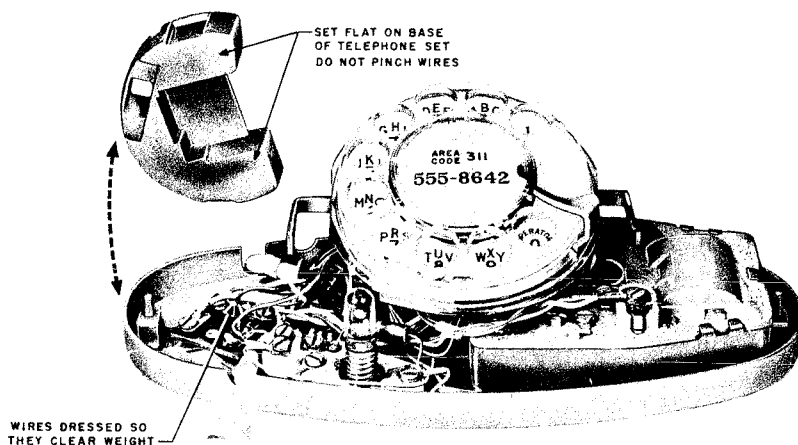

Fig. 17 — P-15E719
3.18 The weight mounts in the telephone set directly over the terminal block (Fig. 16). All leads to the block must be dressed so that the spade tips fall wholly within the boundaries of the block (Fig. 17). The weight shall rest flat on the base of the telephone set. Insert the P-24E510 spring retainer as shown in Fig. 18.